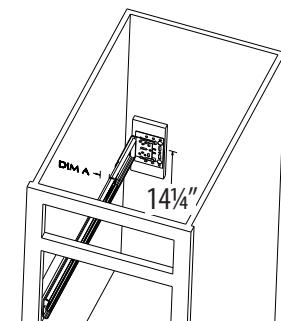

FIG. 8
9. Extend the slide rear mounting bracket until it contacts the rear (furring strip). Center of slide should be 14 1/4" from cabinet floor. Rear mounting bracket should be the same distance from the side cabinet wall at the rear of slide as it is up front ("Dim. A"). Drive (2) #8 x 5/8" screws into holes of mounting bracket. Repeat for other slide. (fig. 8)